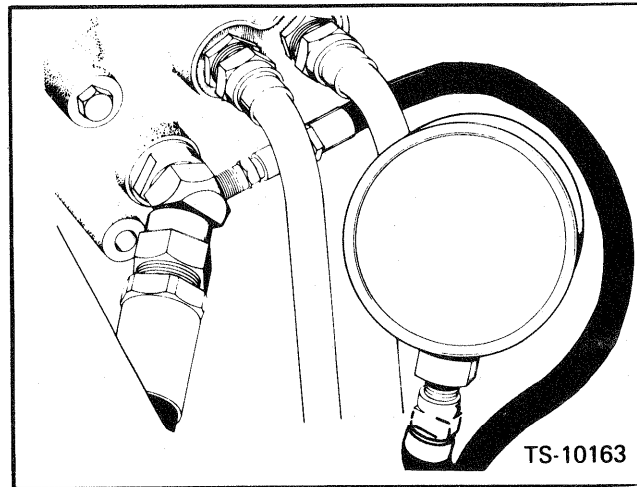

Fig. 11-2 Main Relief Valve Pressure Check
1. Remove the floor panel and attach a hydraulic gauge of at least 3,000 p.s.i. capacity to the hose fitting on the main control valve. Fig. 11-2